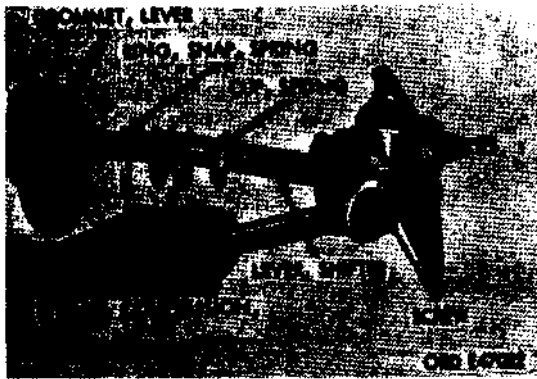

Figure 266. Disassembling shifter lever from housing
- (c) Slide lever grommet (fig. 266) onto shifter lever. Use a screwdriver to pry spring snap ring loose from its
seat in the housing cover. Loosen screw (fig. 266) and pull shifter lever free of housing cover.